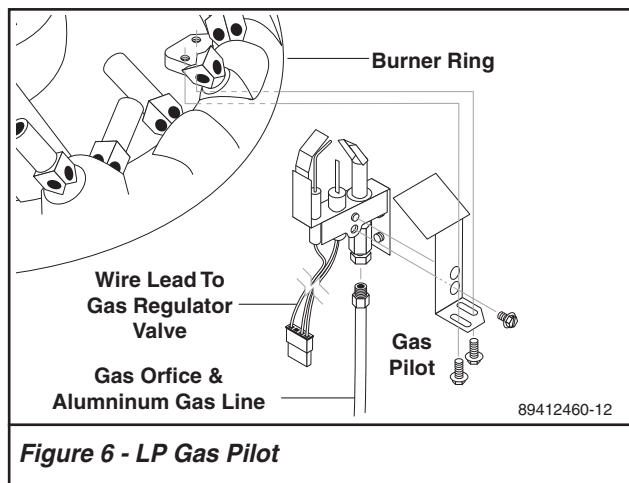

Figure 6 - LP Gas Pilot
- Carefully remove the LP gas pilot from the burner ring (Refer to **Figure 6**).
- Remove the LP gas orifice from the pilot (Refer to **Figure 6**).